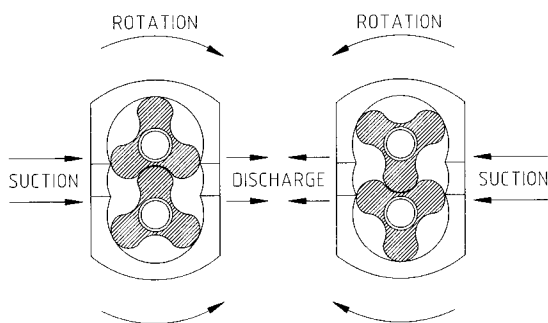

Figure 8
- WARNING** - Make sure that the drive shaft rotation is correct for the direction of flow required. See Figure 8.